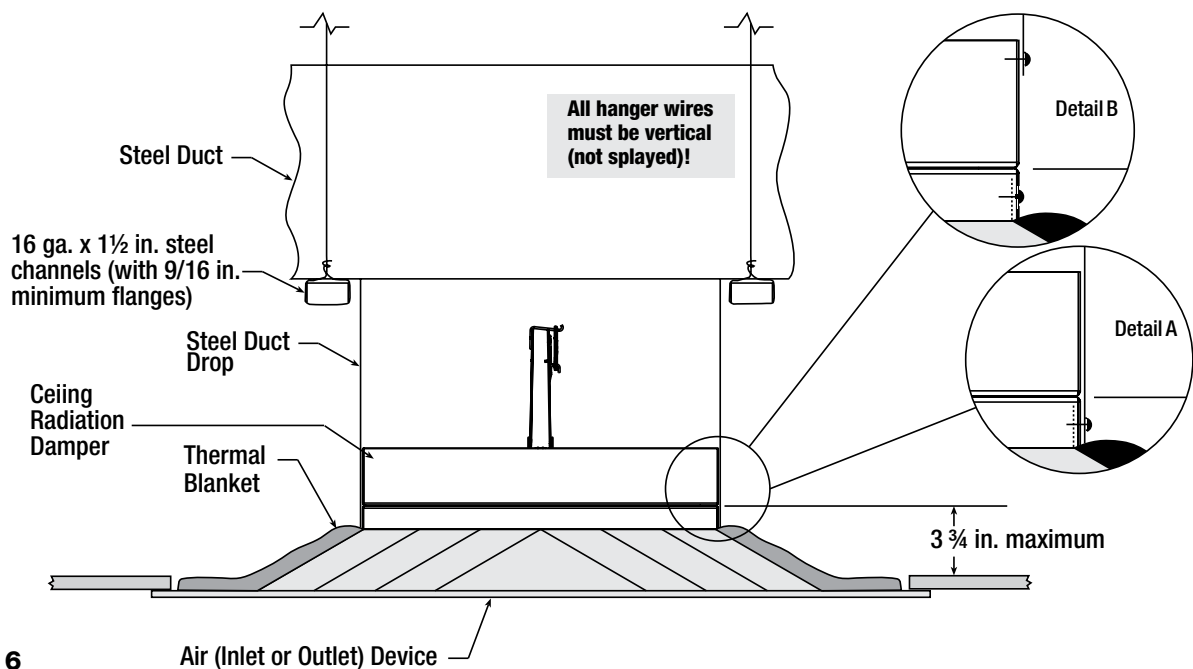

Figure 6
1. Ceiling radiation damper and air device neck may be connected directly to the duct drop (see Detail A, Figure 6).
2. Ceiling radiation damper may be connected directly to the air device neck and then the duct drop connected to the damper (see Detail B, Figure 6).
Models CRD-1, CRD-1LP, CRD-2, and CRD-60 may be installed as shown in **Figure 6** (Model CRD-1 & CRD-1LP illustrated).